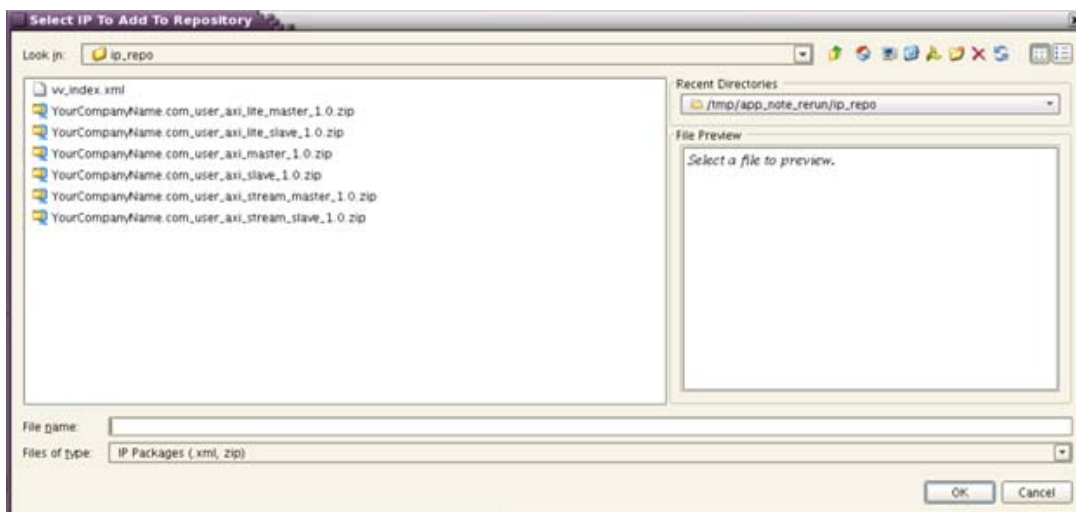

Figure 30: Select IP To Add To Repository Selecting AXI4-Lite Master
7. In the Select IP To Add To Repository window, select `YourCompanyName.com_user_axi_lite_master_1.0.zip` and click **OK** (Figure 30). This extracts the archived ZIP file into a usable form in <design_dir>/ip_repo.